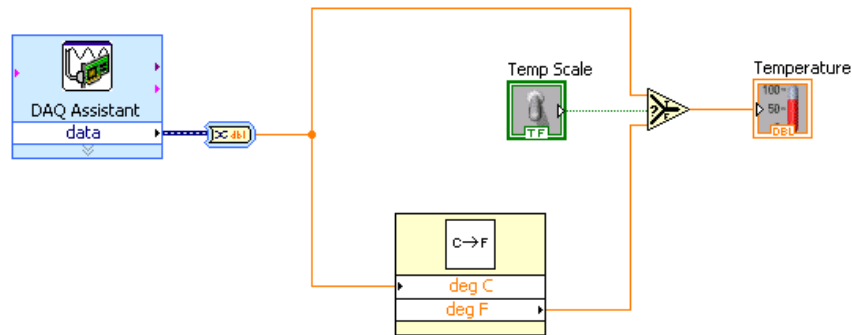

Figure 2.9
1. Select `Window»Show Block Diagram` to display the block diagram (Figure 2.9).
5.  Place the Select function, located on the Functions>>Arithmetic & Comparison>>Express Comparison palette, on the block diagram. This function returns either the Fahrenheit (False) or Celsius (True) temperature value, depending on the value of Temp Scale. Use the Positioning tool to place the icons as shown in the block diagram (Figure 2.9) and use the Wiring tool to wire them together.